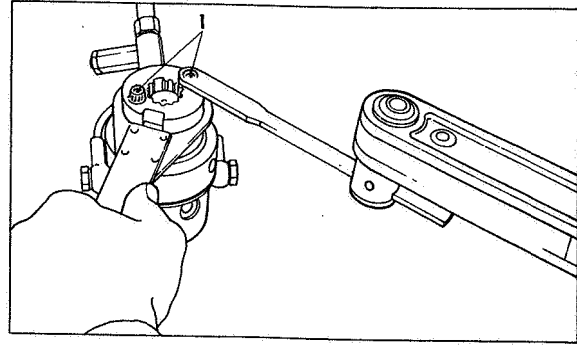

Fig 55 Tightening drive plate screws
Note: Drive plate screws (1) Fig 55 are tightened using a special technique with Spanner Tool Part No 7144-511A and an adaptor fitted in a torque wrench as illustrated. In use, the torque wrench handle and spanner must form a straight line with the handle extending away from the spanner. The distance between the centre of the adaptor and the centre of the ring spanner is 127 mm (5,0 in). With superseded Spanner Tool Part No 7144-511 the distance is 66 mm (2,6 in). See list of Torque Values, Page 40. Certain designs of torque wrench are not suitable for this operation. If the tools used are not kept in a straight line, the applied torque will be incorrect.